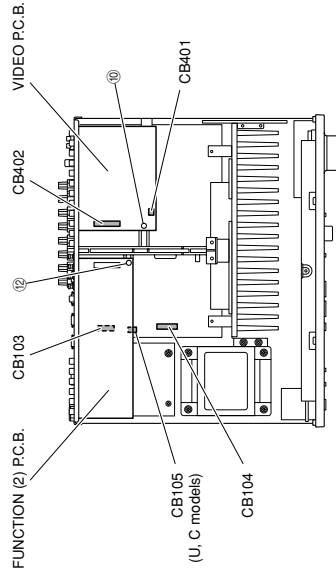

Fig. 3
- Remove 1 push rivet (⑩). (Fig. 3)
- Remove CB401 and CB402. (Fig. 3)
- Remove the VIDEO P.C.B.. (Fig. 3)
6. Removal of FUNCTION (2) P.C.B.
- Remove 1 push rivet (⑫). (Fig. 3)
- Remove the FUNCTION (2) P.C.B.. (Fig. 3)
- Remove CB103, CB104 and CB105 (U, C models). (Fig. 3)